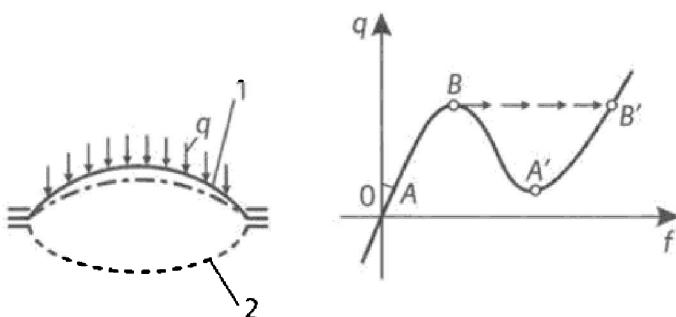

Figure 2.2. Equilibrium states not adjacent to the initial state
2. Emergence of new equilibrium states that are not adjacent to the initial shape. This type of buckling can be demonstrated using the example of a membrane shown in Figure 2.2. When load q reaches a critical magnitude, displacements of membrane f increase to point B (critical point on the equilibrium curve). A subsequent slight increase of the load causes an abrupt transition from state 1 to non-adjacent state 2 (point B').